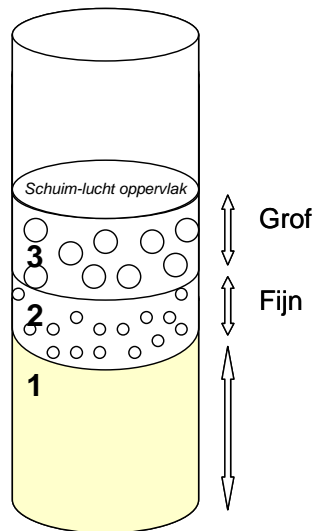

Figure 1. Beer foam pattern in a cylinder.
10. While carrying out the experiment, there was a visible pattern consisting of 3 different layers in the cylinder (figure 1). From bottom to top these layers look as follows: the lowest layer consists of fluid (beer). Layer 2 consists of fine foam and layer 3 of rougher bubbles. Explain the structure of the different layers. Which process from question 6 plays an important role here?